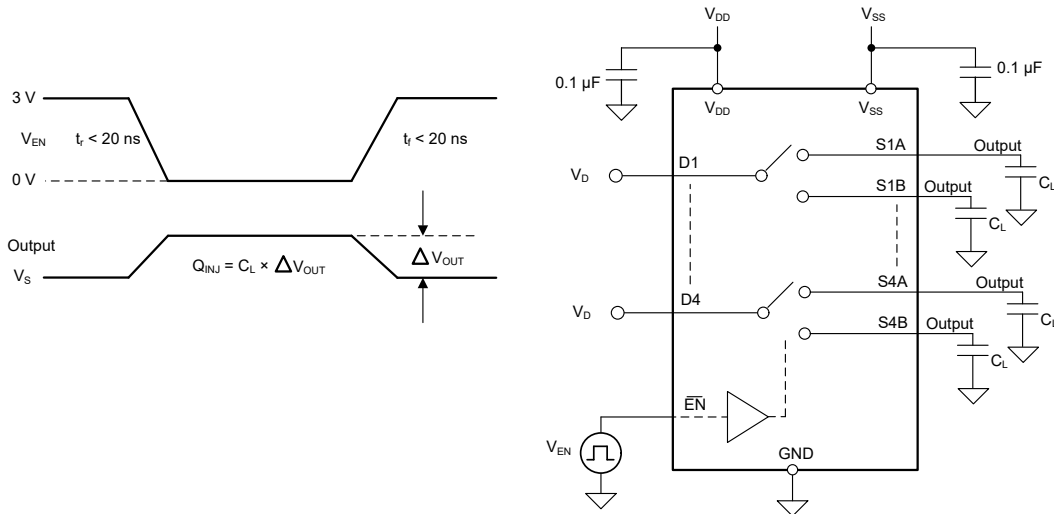

图 6-9. Charge-Injection Measurement Setup
The TMUX6234 has a transmission-gate topology. Any mismatch in capacitance between the NMOS and PMOS transistors results in a charge injected into the drain or source during the falling or rising edge of the gate signal. The amount of charge injected into the source or drain of the device is known as charge injection, and is denoted by the symbol Q_{INJ} . 图 6-9 shows the setup used to measure charge injection from source (S_x) to drain (D).